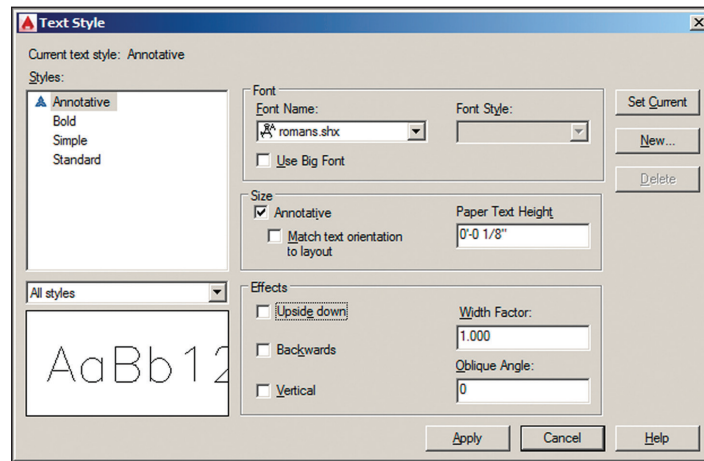

FIGURE 15.7 Setting the height of the Annotative text style
1. Type `ST` (for Style) and press Enter. Select the Annotative style in the Styles list on the left side of the Text Style dialog box. Select `romans.shx` in the Font Name drop-down menu. Type `1/8"` (or `0.30 cm`) in the Paper Text Height box (see Figure 15.7). Click Apply, select Set Current, and then click Close.